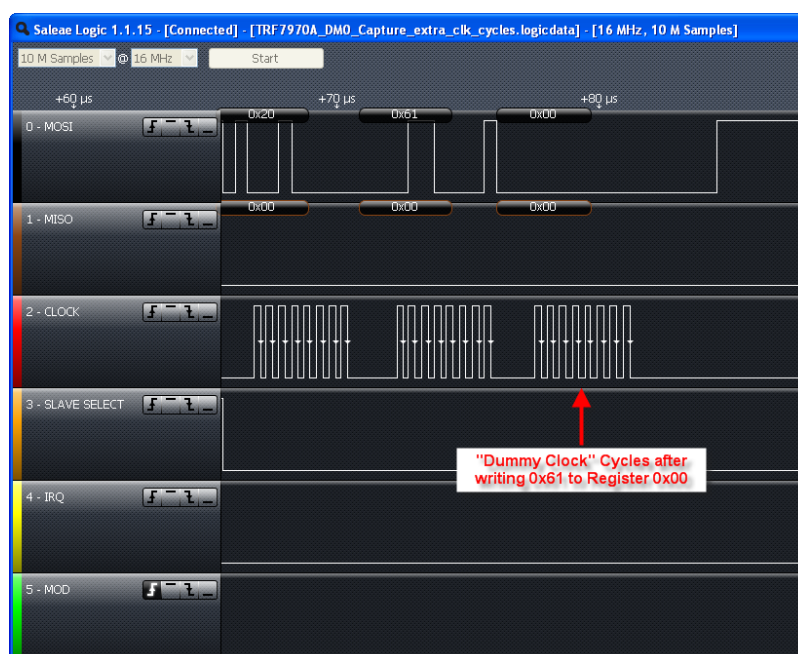

Figure 6-28. Entering Direct Mode 0
4. Send extra eight clock cycles (see Figure 6-28, this step is TRF7964A specific)